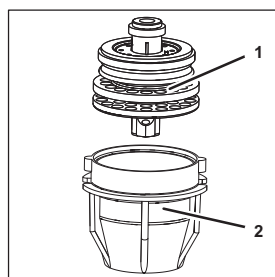

Fig. 16
3. Remove the baffle (Fig. 16/1) from the outlet nozzle (Fig. 16/2).
4. Check the outlet nozzle (Fig. 16/2) for damage.
Damaged outlet nozzles (Fig. 16/2) must be replaced.
5. Check the outlet nozzle (Fig. 16/2) for dirt.
Clean the outlet nozzle (Fig. 16/2), see chapter 5.3.1.
6. Check the baffle (Fig. 16/1) for damage.
Damaged baffles (Fig. 16/1) must be replaced. Please contact your service partner.
7. Check the baffle (Fig. 16/1) for dirt.
Clean the baffle (Fig. 16/1), see chapter 5.3.1.
8. Insert the baffle (Fig. 16/1) into the outlet nozzle (Fig. 16/2).